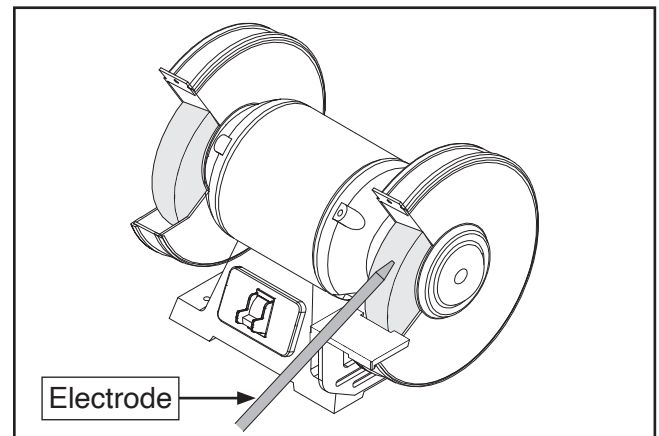

Figure 4. Sharpening tungsten electrode.
2. Press electrode against grinding wheel at a slight angle (see **Figure 4**) and rotate electrode all the way around until a blunt point is formed.